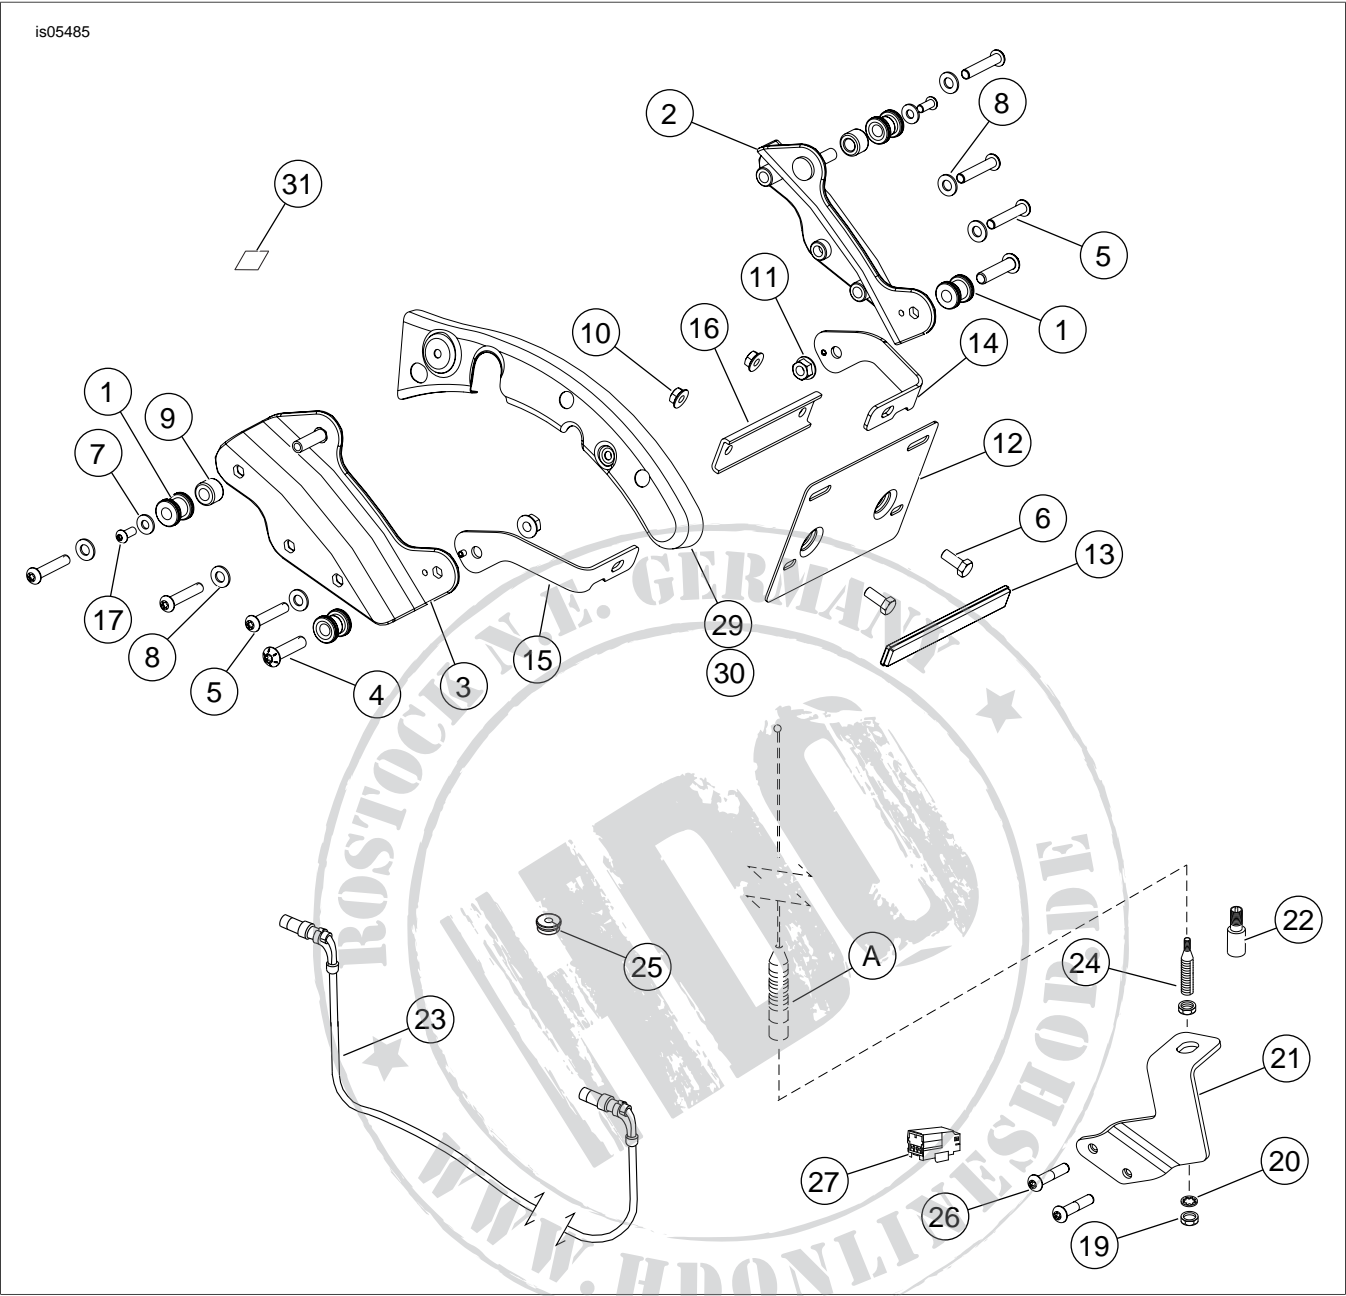

Figure 5. Service Parts: Detachable Tour-Pak Kit
See Figure 5 and Table 1.
2. See Figure 5. Apply Loctite 262 to screw (5). Install fender support cover (29) and docking point bracket (3) with screw (5) and washer (8). Tighten to 17 ft-lbs (23 Nm).
3. Apply Loctite 262 to screw (5). Install fender support cover (30) and docking point bracket (2) with screw (5) and washer (8). Tighten to 17 ft-lbs (23 Nm).
4. Loosely install left side bracket (15) to docking point bracket, inserting alignment pin in the hole in the docking bracket. Install docking point (1) with screw (4) and nut (11).
8. Figure 5. Fasten the antenna cable to the saddlebag support bar with a cable strap (28) from the kit.
12. See Figure 5. Cap unused wiring connector with connector housing (27).
2. See Figure 5. Install antenna adapter (22) by threading onto antenna mount joint assembly (24). Plug one end (connector) of antenna cable (23) onto top of antenna adapter (22) and tighten knurled nut to secure connector. Route other end up and through 3/4-inch diameter hole at the bottom front left side of Tour-Pak and plug into Tour-Pak antenna base. Tighten knurled nut. Make sure enough cable has been routed into Tour-Pak so that the cable rests flat on bottom of Tour-Pak. Secure cable in wire clips.
3. Install grommet (25) in hole in Tour-Pak.
2. See Figure 5. Remove the antenna cable (23) from the top of the antenna adapter (22).
5. Install antenna mast to the antenna mount joint assembly (24).